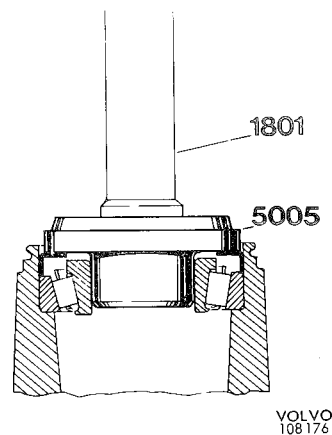

**Fig. 7-34. Installing inner bearing ring**
7. Press in the new bearing rings. In addition to using standard handle 1801, use driver 5005 (Fig. 7-34) for the inner ring, and driver 2724 (Fig. 7-35) for the outer bearing ring.